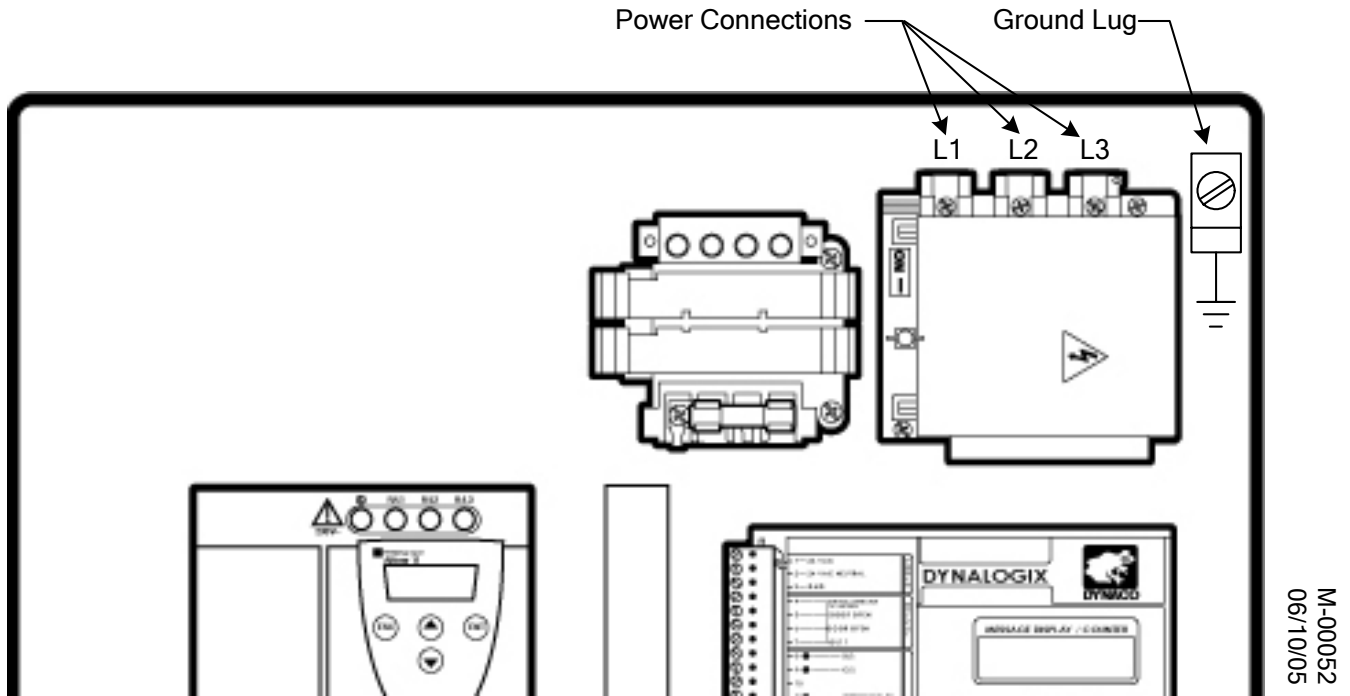

Figure 3-2: Power Connections in Control Box
1. Connect the incoming power. Run the wires (conduit) through the **bottom** of the Control Box, up the left side, and connect them into the top of the fused disconnect. See Figure 3-2.